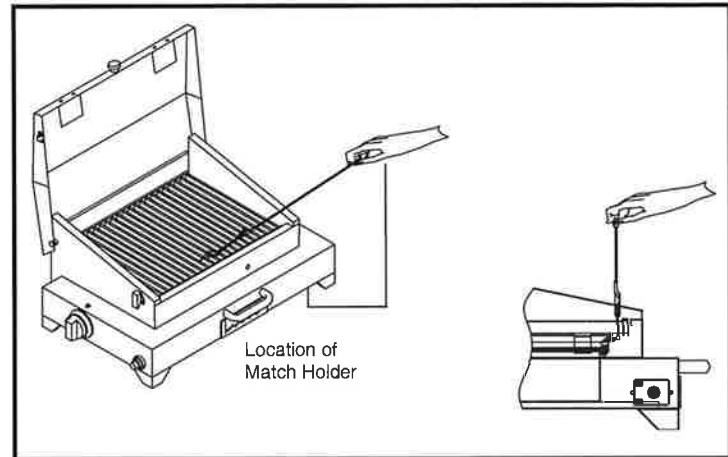

Figure 9 Match Lighting
4. Remove the match holder from the underside of the grill. (See Figure 9 , Page 10).
5. See Figure 9, Page 10 for match lighting approach. To prepare, place a match in the alligator clip at the end of the match holder. Then, place the alligator clip end of the match holder close to the cooking surface and light the match. While observing that the match remains lit, insert the burning match between the Radiant Glass Panel and the front inner wall of the grill downward to the level of the burner top. Turn the Burner Output Knob to HIGH for burner ignition.